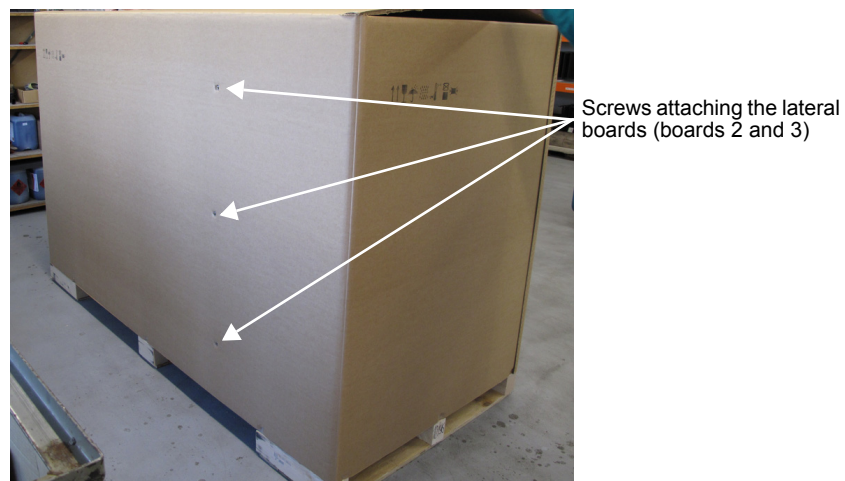

Fig. 13-21 Attachment of the lateral boards
- Attach board 2 to the outside of the cardboard box using three screws (5 × 40 mm) (→ Fig. 13-21).